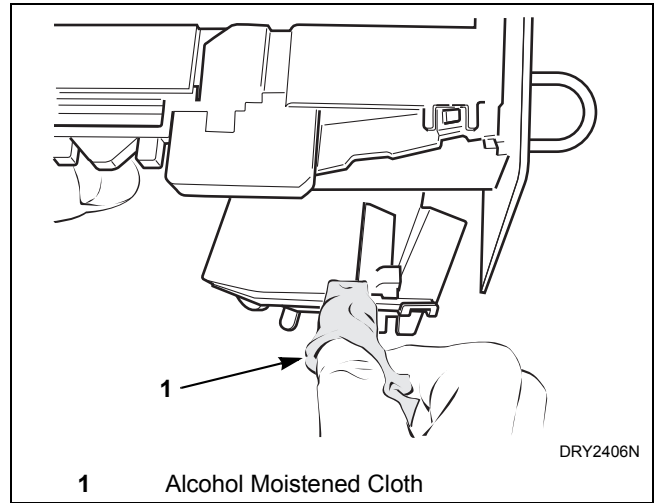

Figure 54
5. Clean residue from coin rail with an alcohol moistened cloth. Refer to *Figure 54*.